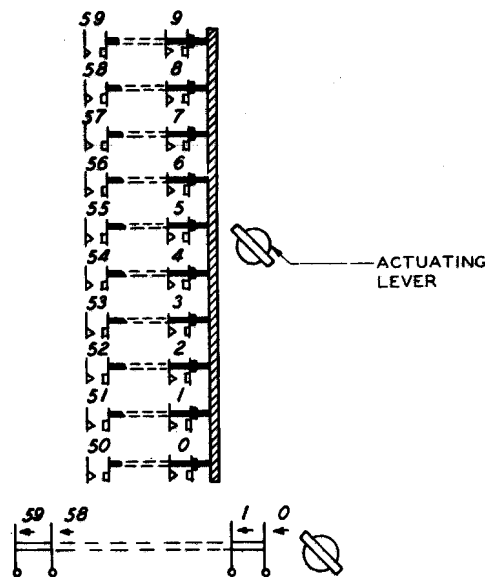

Fig. 94 — Contact Spring Arrangement as Viewed From the Front (contact side) — 216- and 217-Type Switches
**3.07** The contact springs are numbered consecutively in vertical rows of 10 pairs of springs starting at the bottom with pair 0 in the row nearest the armature as shown in Fig. 94, and continuing with each vertical row of springs from right to left facing the contact side of the switch. On the schematic drawing the contact springs are not necessarily shown in numerical order.